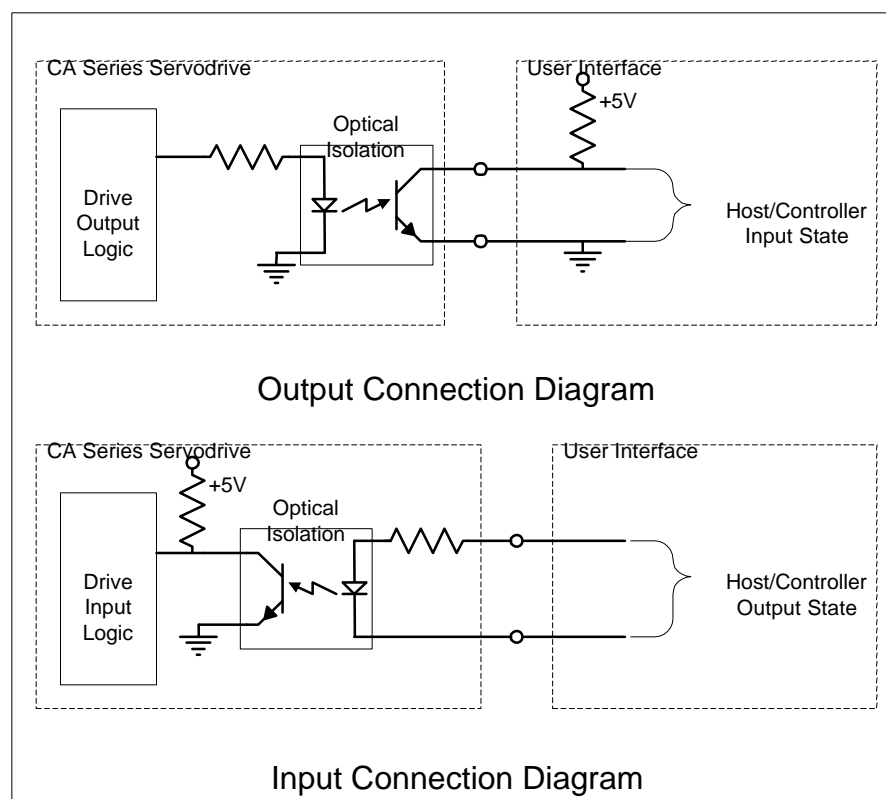

Figure 4, Making Digital I/O Connections
* All of the inputs and outputs noted for P2 above follow the hardware setup described in **Figure 4, Making Digital I/O Connections**, later in this chapter.
* All of the inputs and outputs noted for P2 above follow the hardware setup described in Figure 4, Making Digital I/O Connections , later in this chapter.